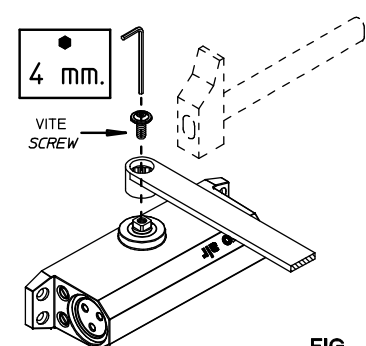

FIG. 3
2. ACCOPIARE IL BRACCIO AL PERNO COME INDICATO IN FIG.3 E FISSARE LE DUE PARTI UTILIZZANDO LA RONDELLA E LA VITE IN DOTAZIONE. NB: IL PRECISO ACCOPIAMENTO FRA IL PERNO DEL CHIUDIPORTA ED IL BRACCIO PUO' RICHIEDERE L'USO DI UN MARTELLO.
2. ASSEMBLE ARM AND BODY AS SHOWN ON FIG.3 AND FIX THE TWO PARTS TOGETHER USING WASHER AND SCREW SUPPLIED WITH THE DOORCLOSER.
2. ACCOPIARE IL BRACCIO AL PERNO COME INDICATO IN FIG.3 E FISSARE LE DUE PARTI UTILIZZANDO LA RONDELLA E LA VITE IN DOTAZIONE. **N.B. IL PRECISO ACCOPIAMENTO FRA IL PERNO DEL CHIUDIPORTA ED IL BRACCIO PUO' RICHIEDERE L'USO DI UN MARTELLO.**